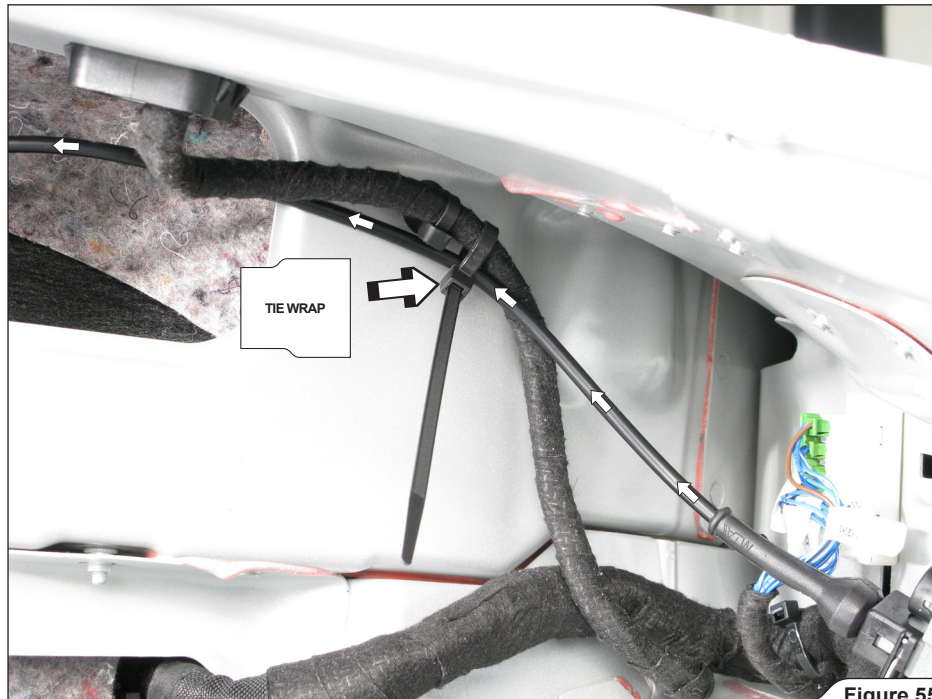

Figure 55
18. **For wireless kit installation on COUPE model only:** direct cables from electromagnetic valve to the power distribution box, connect wireless transmitter and protect the connection with heat shrinkable insulation, tighten the ground connector (black thin wire) with marked original nut and connect the transmitter's harness connector to the marked free fuse spot (**Figure 55, 56, 57**).